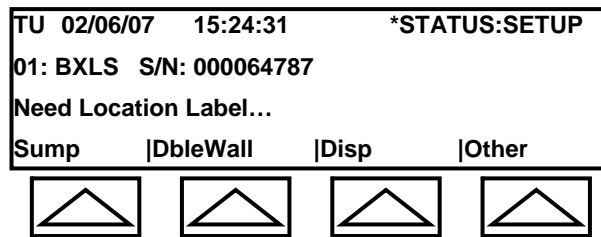
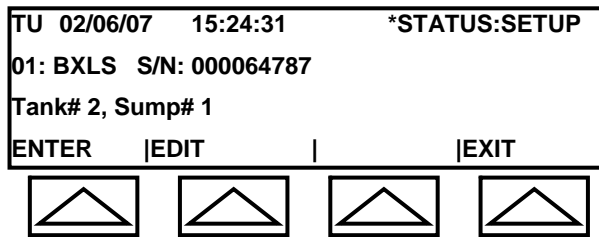
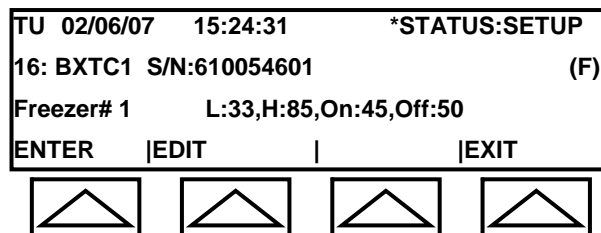

Fig. 4-9e: Label Screen
Fig. 4-9h: Label Edit Screen
Fig. 4-9j: Temperature Sensor Screen
The labeling screen provides label choices for each type of sensor. These appear as fields in Line 4 on the LCD (see Figure 4-9e). Table 4-1 identifies the labels that will appear for the different types of sensor.
The Label Screen is displayed (see Figure 4-9e).
Note: Figure 4-9e will not be displayed for sensors that had already been labeled in previous programming. The Label Edit Screen (see Figure 4-9h) will be displayed instead allowing you to make edits (see Section 4.3.5.1.3 – Editing Labels).
- ◆ ERASE ALL – erases all data entered on line 3. If no data was entered, the LCD displays the Label Screen (see Figure 4-9e).
The Label Screen (see Figure 4-9e) will be displayed for the next sensor.
1. Starting in the Label Screen (see Figure 4-9e), select Other.
When you select OK in the Config – Search Results Screen (see Step 1 in *Section 4.3.5.1.1 – Sensor Labeling*), the Label Screen (see Figure 4-9e) is displayed prompting you to select a label. If a sensor had already been labeled during previous programming, the Label Edit Screen (see Figure 4-9h) will be displayed instead allowing you to make edits.
The screen will appear as in Figure 4-9h.
The Temperature Sensor Screen is displayed (see Figure 4-9j).
Note: Label options such as those shown in Line 4 of Figure 4-9e, are displayed only for sensors where a label has not been assigned. When a label has already been assigned, Line 4 will appear as shown in Figure 4-9j.